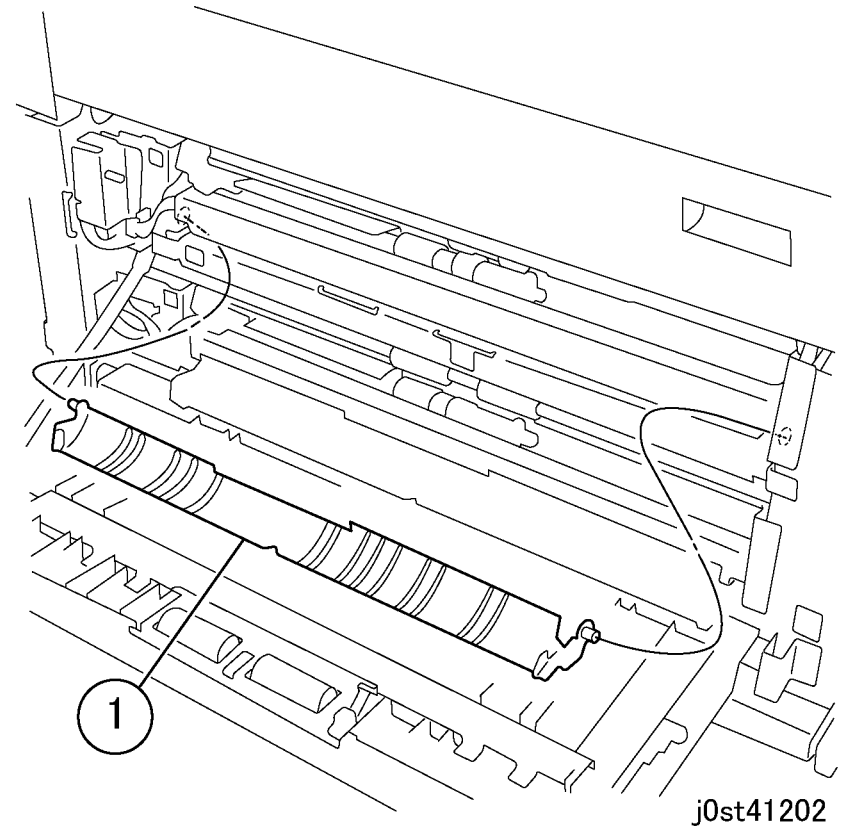

Figure 4 Removing the Feed Out Chute
6. Remove the Feed Out Chute. (Figure 4)